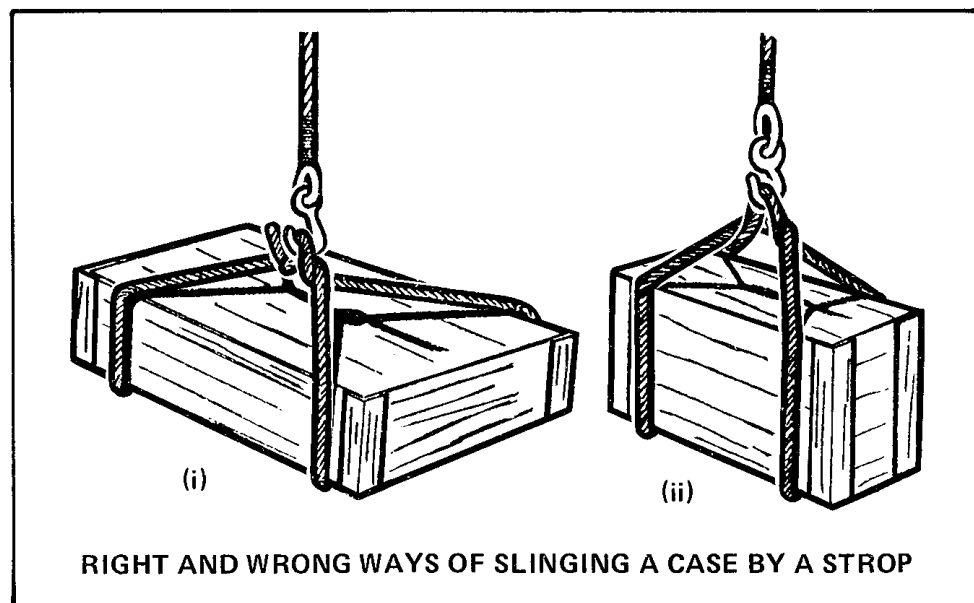

Figure 4-69 Right and Wrong Ways of Slinging a Case by a Strop
21. **Stress Using a Strop** — The same principle applies also to simple strops, as illustrated in the two sketches (i) and (ii) in Figure 4-69. In (i) the angles between the four legs of the strop are wide and each leg bears about 1-1/2 times the weight of the case; in (ii) the angles between the four legs of the strop are small and each leg bears about half the weight of the case.